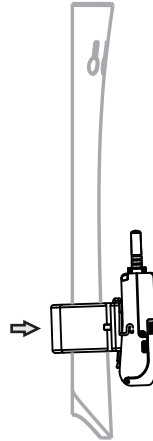

Fig. 11-3
(B) Install the transmitter set on the tailpiece of cello / double bass, Fig 11-3.